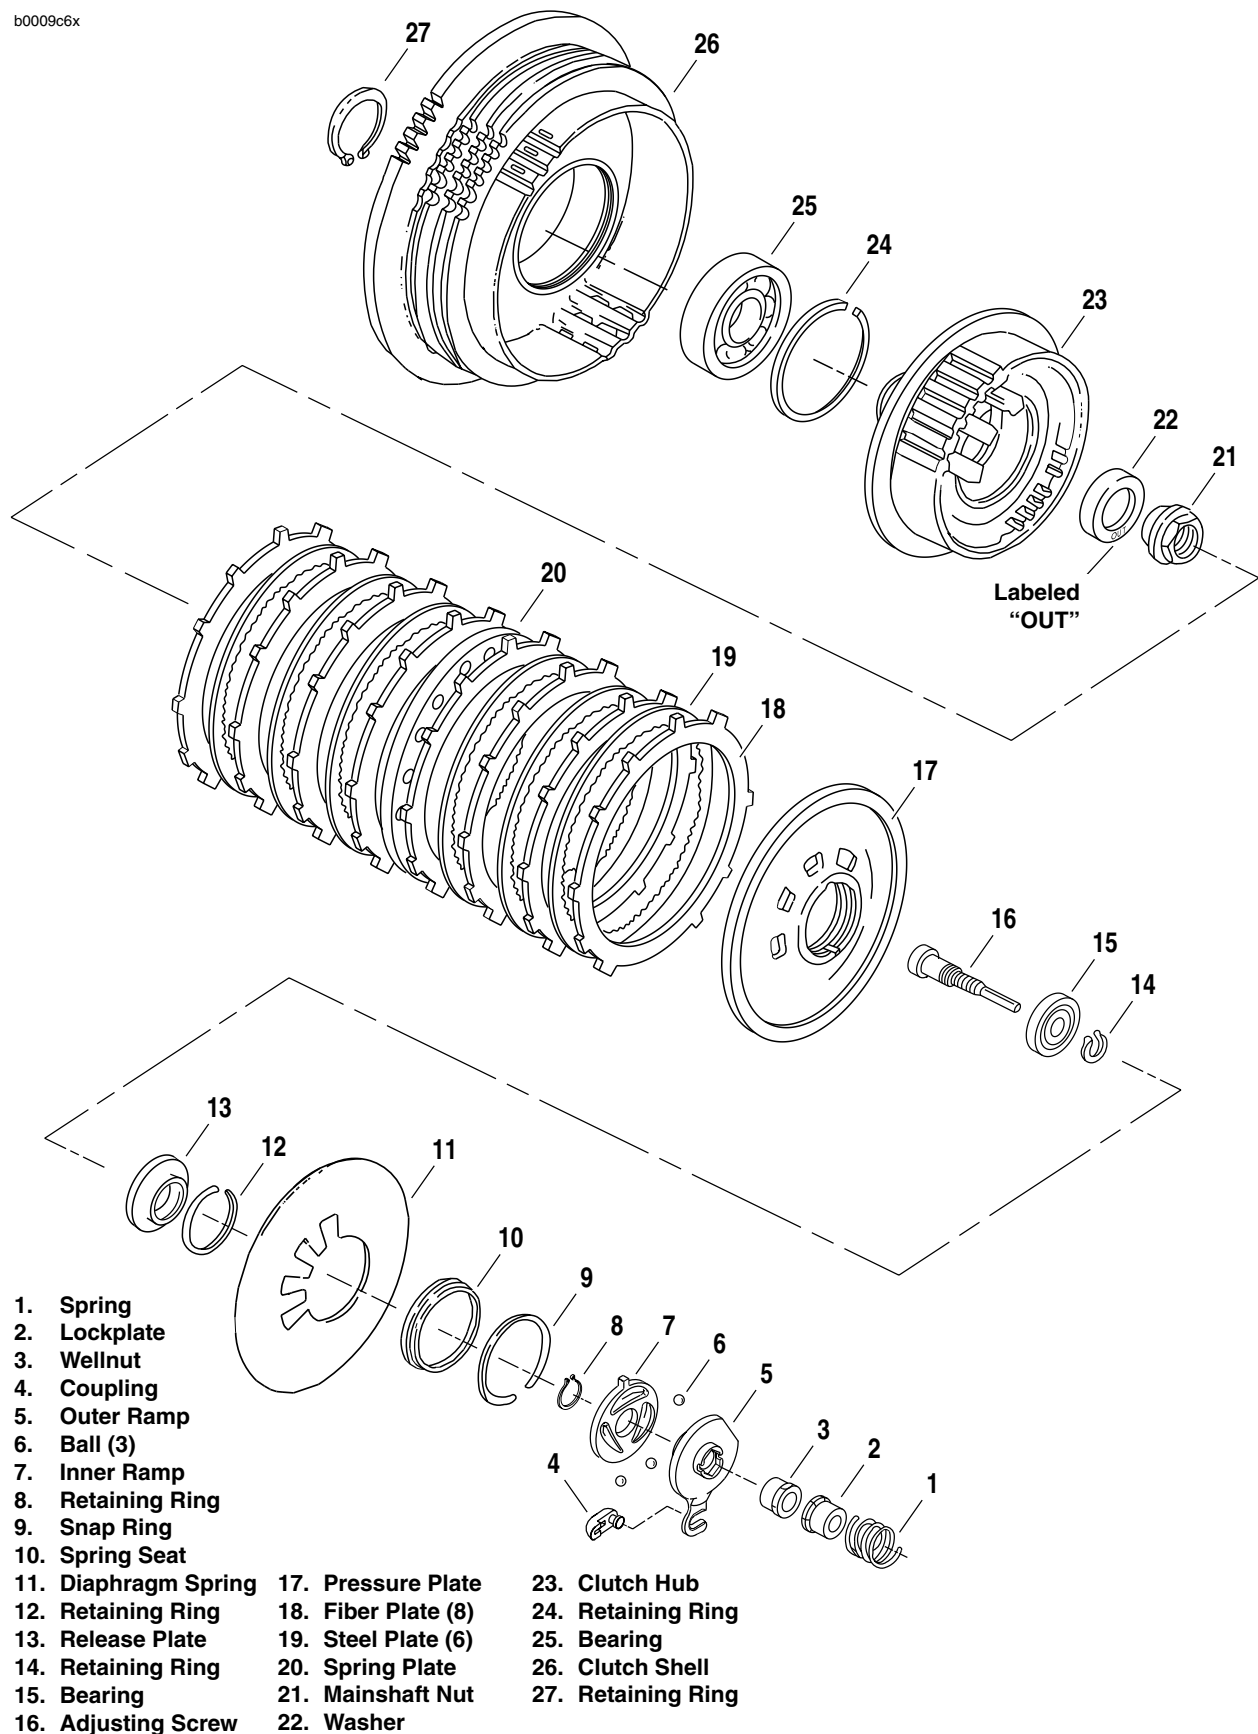
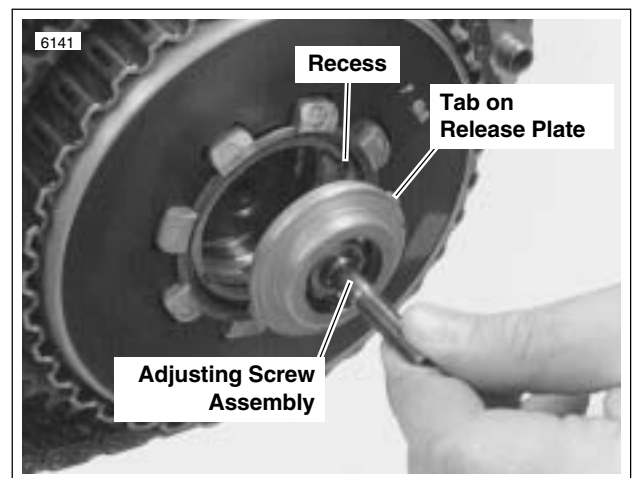
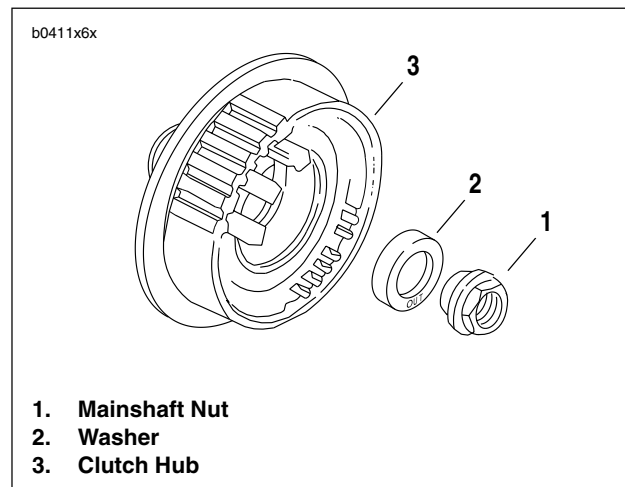

Figure 6-16. Clutch Assembly
Figure 6-18. Aligning Tabs
Figure 6-24. Mainshaft Nut and Washer
- a. Place a wrench on the clutch spring forcing screw (1) flats to prevent the forcing screw from turning.
- b. Turn compressing tool handle (5) clockwise until tool relieves pressure on snap ring (8) and spring seat (9). Remove and discard snap ring (8).
- c. Unseat spring seat (9) from the groove in clutch hub prongs.
5. See Figure 6-16. Remove the clutch pack from the hub/shell assembly. The pack consists of eight fiber plates (18), six steel plates (19) and a spring plate (20).
See Figure 6-16. Mainshaft nut (21) has left-hand threads. To prevent damage, turn nut clockwise to loosen and remove from mainshaft.
5. Remove mainshaft nut (21) and washer (22).
- a. See Figure 6-18. Align two tabs on perimeter of release plate with corresponding recesses in pressure plate.
See Figure 6-16. Due to the possible damage to the bearing (25), the clutch hub (23) and shell (26) assembly should not be disassembled unless the bearing, hub or shell require replacement. If the assembly is pressed apart, the bearing must be replaced.
- a. Remove retaining ring (27) from inboard end of clutch hub (23).
- b. Using an arbor press, separate clutch hub (23) from assembly of clutch shell (26), bearing (25) and retaining ring (24).
- c. Remove retaining ring (24) from groove in clutch shell (26).
- d. Press on the inboard side of bearing (25) outer race to remove bearing from clutch shell.
1. See Figure 6-16. Wash all parts, except fiber (friction) plates (18) and bearing (25), in cleaning solvent. Blow dry with compressed air. Examine the clutch components as follows:
- b. Inspect each steel (drive) plate (19) for grooves.
2. Check the diaphragm spring (11) for cracks or bent tabs. Install a **new** spring if either condition exists.
1. See Figure 6-16. Install the clutch pack, which consists of eight fiber plates (18), six steel plates (19) and a spring plate (20), into the clutch hub (23). The order of plate assembly, from inboard to outboard, is as follows:
See Figure 6-24. Washer (2) must be installed with the word "out" facing the mainshaft nut (1) or transmission may be damaged.
- b. Place washer (2) on mainshaft with the word "out" facing away from clutch hub (3).
- c. Install nut (1) (**left-hand threads**). Tighten to 70-80 ft-lbs (95-109 Nm).